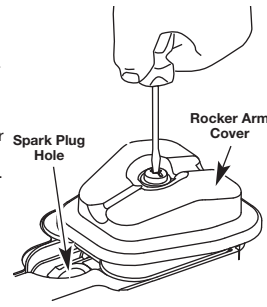

Fig. 29
- Clean dirt from around the rocker arm cover. Remove the screw holding the rocker arm cover with a large flat blade screwdriver or Torx T-25 bit (Fig. 29). Remove the rocker arm cover and gasket.
- The piston is at the top of its travel while looking in the spark plug hole (Fig. 29)
- Reinstall the rocker arm cover using a new gasket (Fig. 29). Torque the screw to: **20–30 in•lb (2.2–3.4 N•m)**.